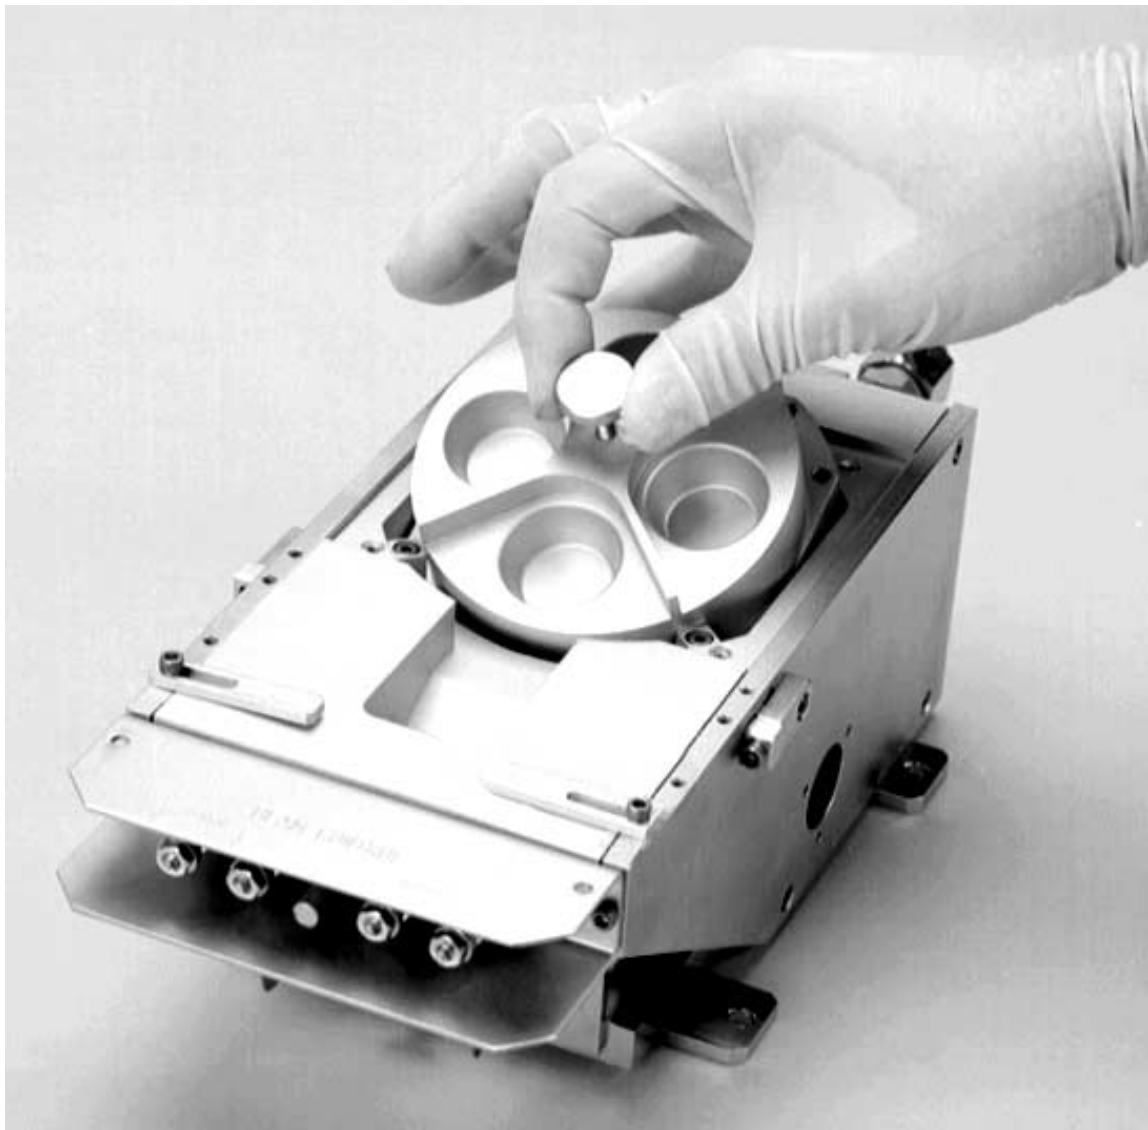

Figure 6-6. Removing the crucible from the source. Note angle of withdrawal
- (c) Pull the crucible clear of the coil housing by angling it upward and backward at the same time, as shown in Figure 6-6. Be very careful at this point not to scrape the crucible's O-ring-sealing surface on the water baffle.
- (b) Angle the crucible into the position shown in Figure 6-6. Then lower its rear end so that its bottom surface is horizontal, and lower it straight down onto the O-ring.